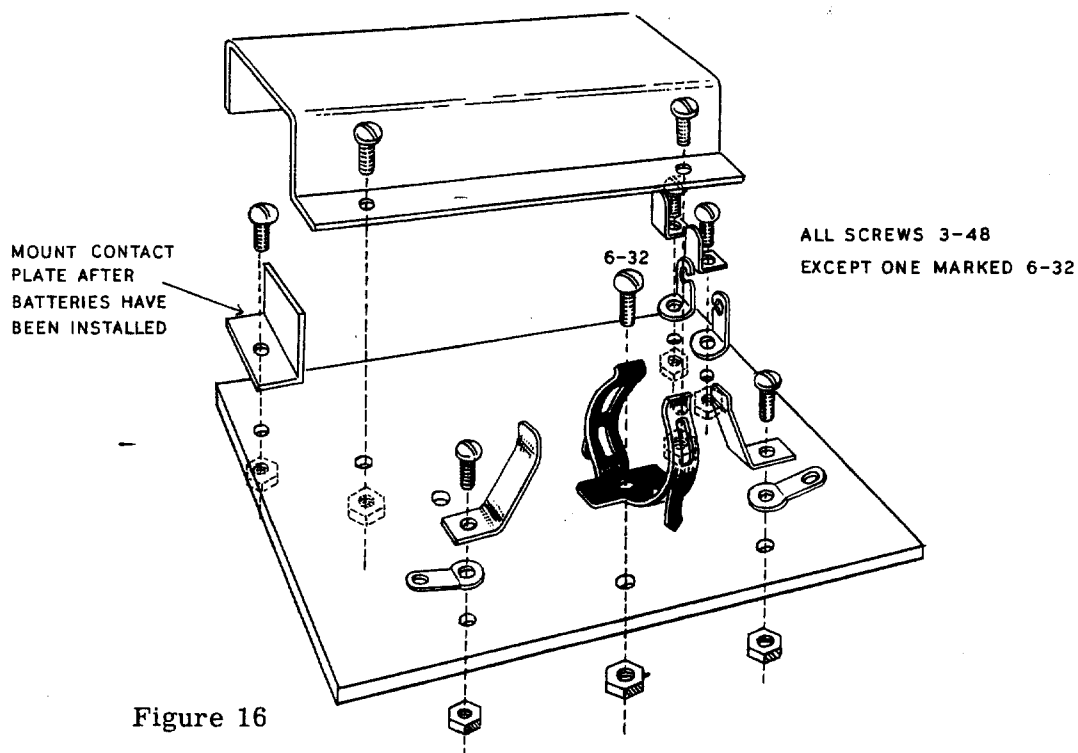

Figure 16
- () Connect a wire from A13 (S) to K2 (S).
- () Assemble the battery panel as shown in Figure 16 and Pictorial 1, using 3-48 screws and nuts and placing a small solder lug under the battery contacts 1, 2, 3, and 4.
- () Connect the wire coming from S2B3 to the positive (+) meter lug (S). That will be the left-hand meter lug when looking at the back of the meter with the panel in the up-right position.
- () Connect the wire coming from S2C1 to the #4 battery contact (S).
- () Connect the wire from B23 to the negative (-) meter lug (S).
- () Connect the wire coming from S1D7 to the #1 battery contact (S).
- () Connect the wire coming from S1D9 to the #3 battery contact (NS).
- () Connect a wire from the #3 battery contact (S) to the #2 battery contact (S).
- () Connect a 17.5 megohm 2 watt resistor from J1 (S) to B11 (S). Use sleeving on this end and position to clear other contacts and the case when assembled. See Pictorial 1.
- () Connect a 70 megohm 2 watt resistor from J2 (S) to B12 (S) following the same process as described in the previous step.